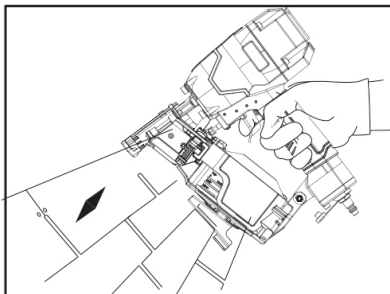

Fig. 5
17. Holding the handle (A) firmly, press the tool onto your workpiece in the desired location and hold steady.
18. Gently squeeze the trigger (C) to drive the fastener into workpiece (Fig. 5).